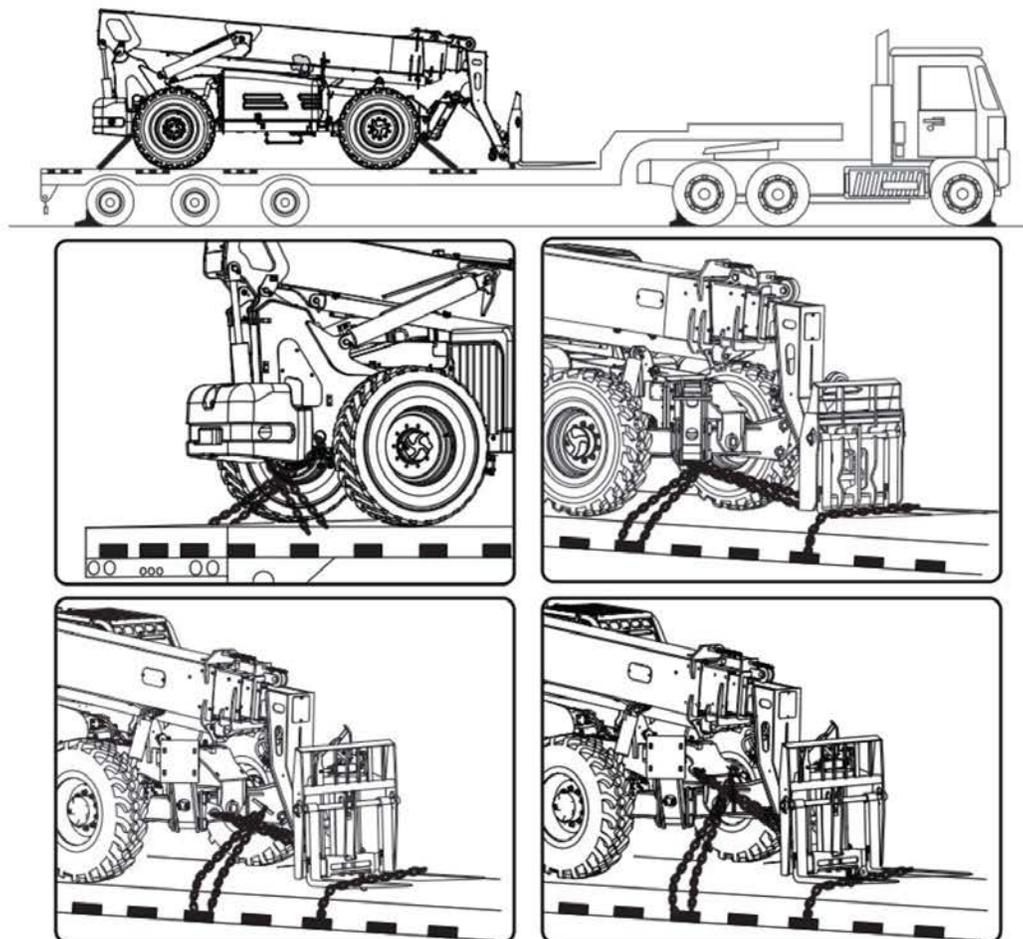
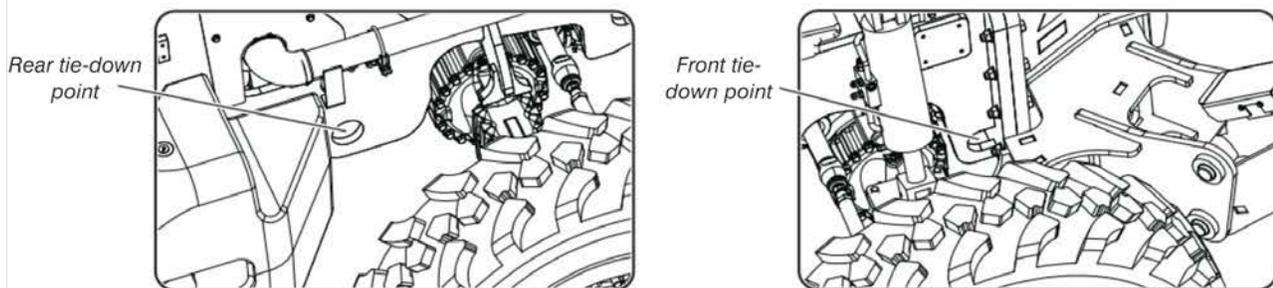

Figure 56 Tie-down points
Figure 57 Front and rear tie-down point locations
11. Anchor down telehandler to transport surface using tie-down points. See Figure 57 and secure the forks to the platform using sufficient straps. See Figure 56.
The **towing pin 1** utilizes the telehandler as a towing vehicle and is located at the rear of the telehandler as shown in Figure 57.